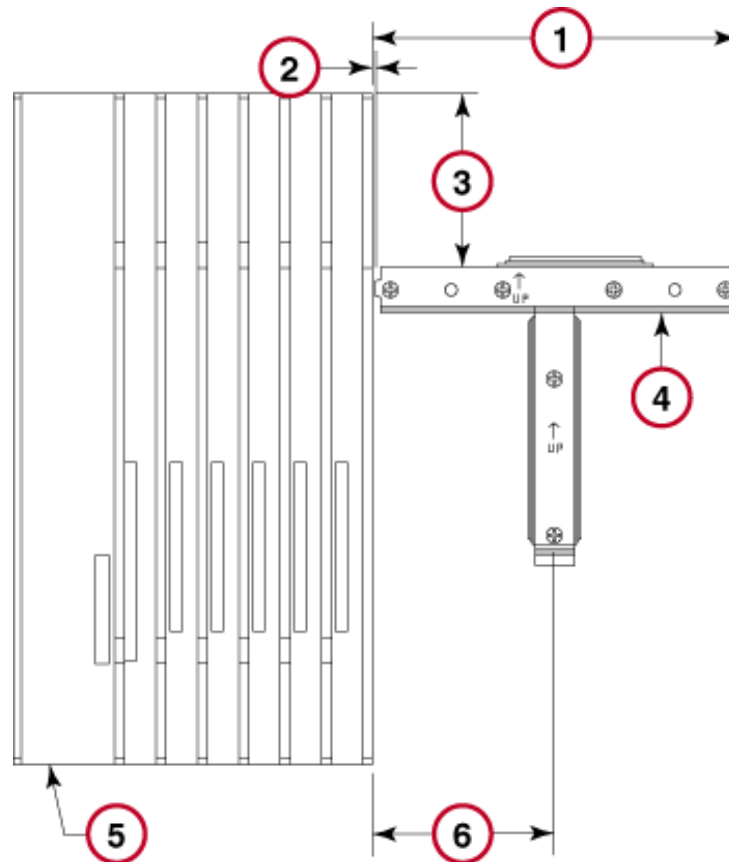

Figure 7-3. Using a Mounting Bracket
- If you are using mounting brackets to mount the expansion carrier, see Figure 7-3.